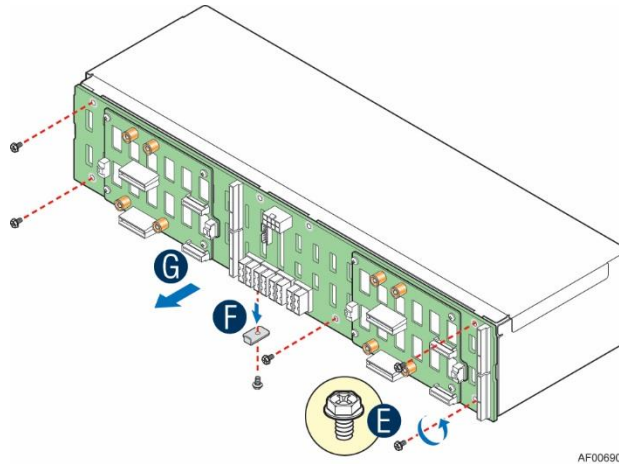

Figure 53. Removing the SAS/PCIe* SFF combo 24 x 2.5" hot swap backplane
7. Remove the five screws from the backplane board (E), remove the screw and the bracket from the bottom of the drive cage (F), and detach the backplane board from the drive cage (G) as pictured in Figure 53.